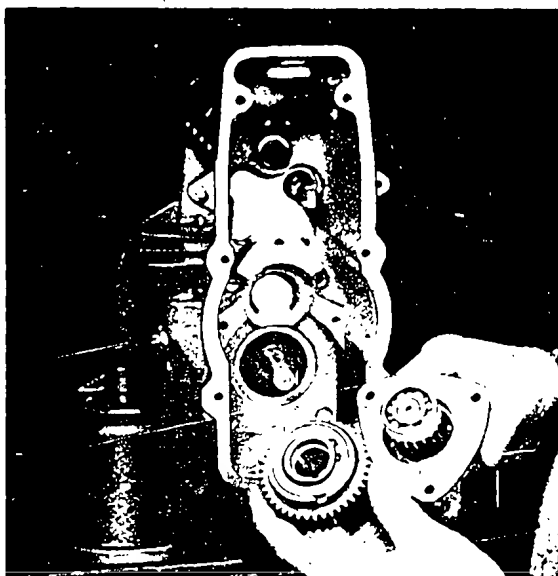

Fig. 26 Dismantled governor shaft with drive gear and bearing cover
During extraction of the governor shaft (170), the drive gear (161) is simultaneously removed from the camshaft (Fig. 26). Remove washer (175) from ball bearing recess.